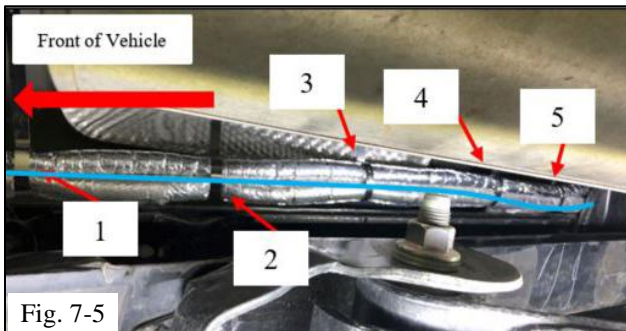

Fig. 7-5
- (h) Use the metal wire ties #1, #2, #3, #4, and #5 to secure the body wire harness to the vehicle wire harness toward the rear of the vehicle (Fig. 7-5).